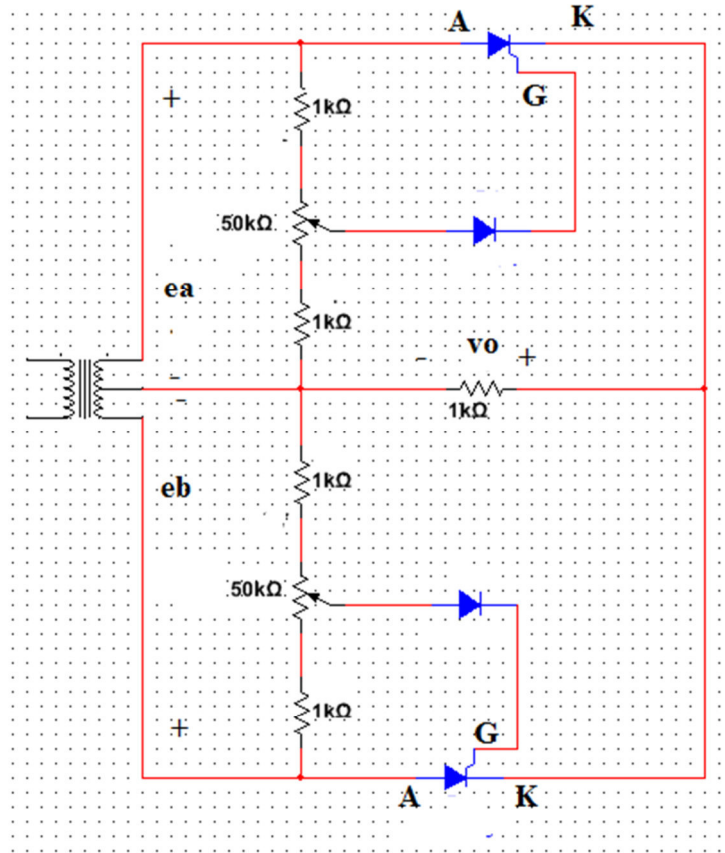

Figure 4.3: Single Phase Centertapped Controlled Rectifier and its Controlling Circuit
- Implement the single phase centertapped controlled rectifier circuit on breadboard, as shown in the Figure 4.3.